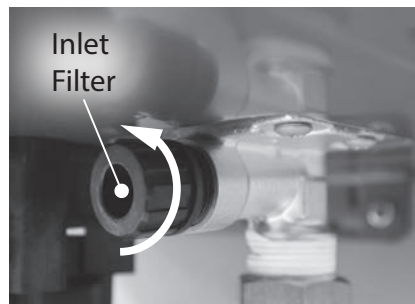

Figure 202 - Removing the inlet filter
**7** Locate and remove the inlet filter as shown in Figure 202 to drain any residual water left in the system. Place a bucket or pan underneath inlet filter to collect water during removal.